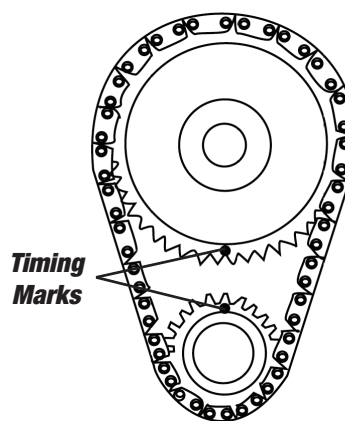

Figure 2 - Timing Chain Sprocket Alignment
15. Remove fuel pump and fuel pump pushrod. Rotate engine until timing marks are aligned as in **Figure 2**.
2. Install new camshaft with new sprockets and timing chain align timing marks as shown. See Figure 2.
3. Install camshaft with timing marks lined up as recommended by factory specifications. **See Figure 2.**
- **PUSHROD AND ROCKER ARM INSTALLATION** - After the cam is installed and timed correctly (*see Figure 2*), install pushrods, lifters and rocker arms. NOTE: High performance adjustable rocker arms must be used with screw-in rocker arm studs and guide plates. Stock cylinder heads may require machining to install screw-in studs. Hardened steel pushrods MUST be used with guide plates. Longer than stock pushrods may be required.